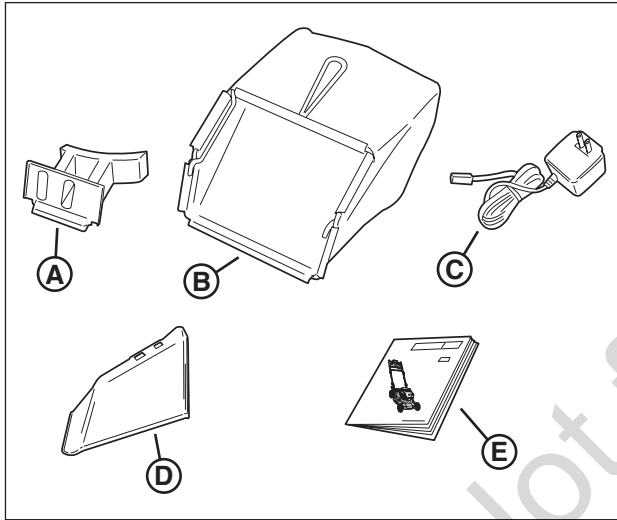

Figure 1: Items included
- Mulching plug (**A, Figure 1 - installed**)